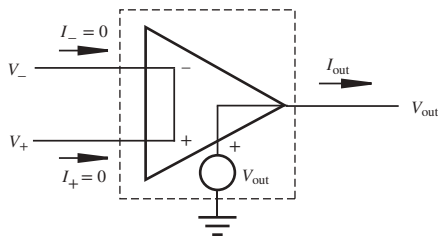

Figure 5.4 Op amp equivalent circuit.
Figure 5.4 illustrates an ideal model that can aid in analyzing circuits containing op amps. This model is based on the following assumptions that describe an ideal op amp:
2. *It has infinite gain.* As a consequence, the difference between the input voltages must be 0; otherwise, the output would be infinite. This is denoted in Figure 5.4 by the shorting of the two inputs. Therefore,